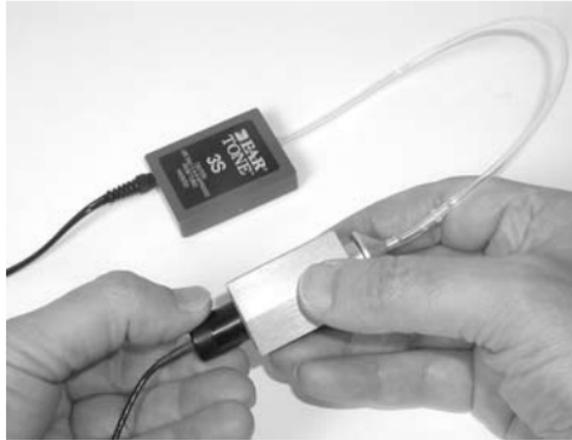

Figure 2: Coupler setup for RECD.
5. Remove the foam eartip from the insert earphone and connect it to the HA-2 coupler. Insert the FP35 coupler microphone into the coupler. *See Figure 2.*